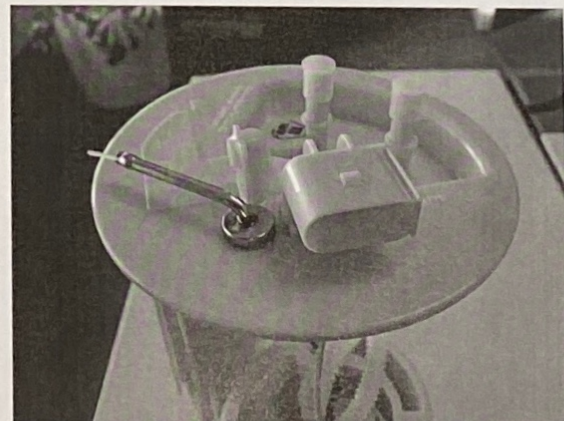

Figure 3
*Figure 3* shows the standpipe position on the VW Crafter sender unit.